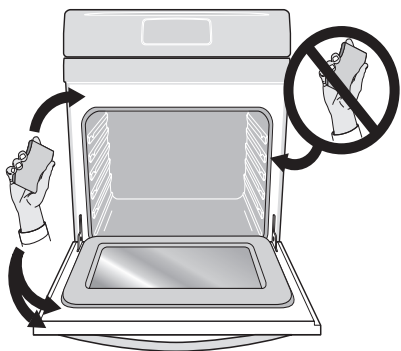

Figure 20: Clean around oven door gasket
- Do not clean the oven door gasket (Figure 20). The woven material of the oven door gasket is essential for a good seal. Care should be taken not to rub, damage, or remove the gasket.